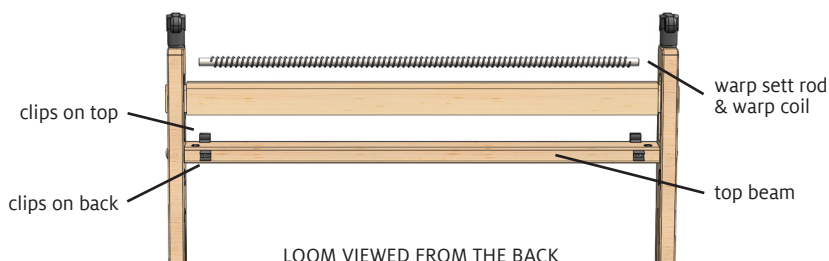

FIGURE 11: INSTALL THE WARP COIL
4. Install the warp coil: Remove the warp sett rod from its clips on the top beam and slide the rod through your desired coil. Clip the warp sett rod onto the top beam, fitting the coil between the clips (Figure 11). Use clips on the top if you want to warp from the front or use clips on the back to warp from the back. (After warping is completed, you can carefully slide the rod and coil around to the top, if desired.)